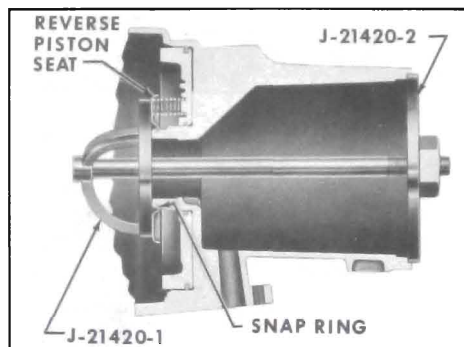

Figure 5-153
5. To remove reverse piston, center tool J-21420-1 on reverse piston return seat. Install Flat Plate J-21420-2 over threaded shaft at rear of case. Tighten wing nut to compress piston return seat; then remove snap ring with Pliers J-5586. See Figure 5-153.